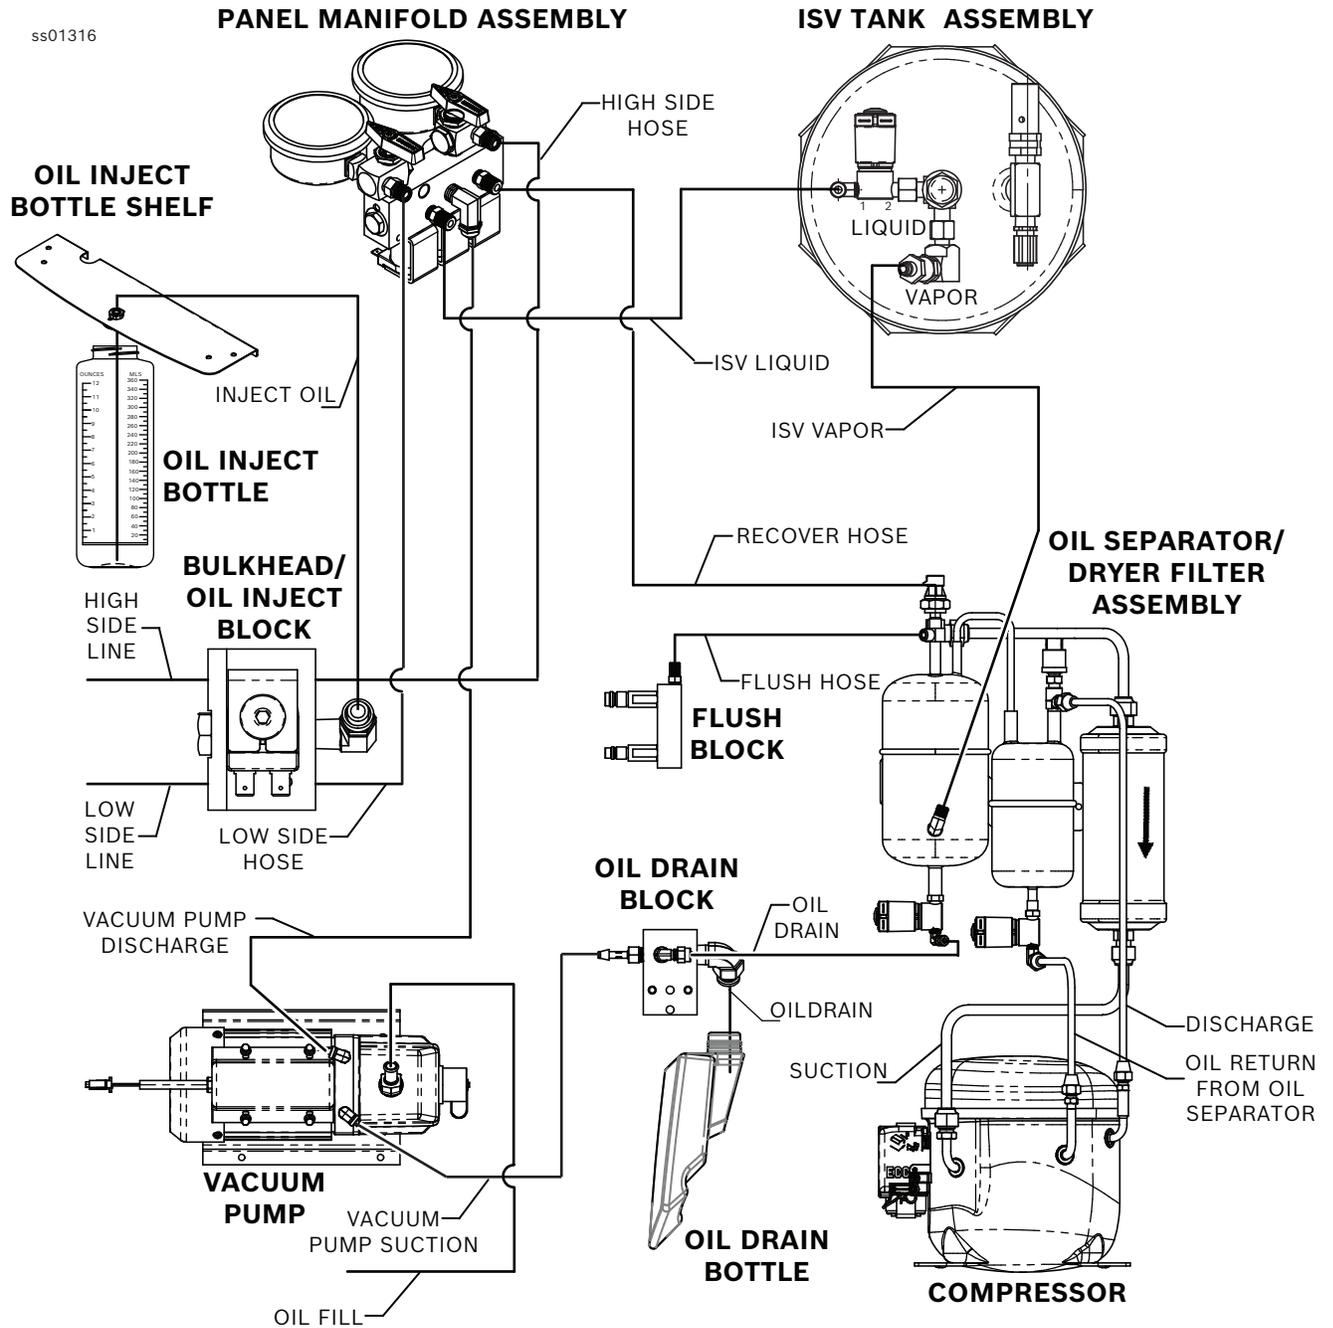

Figure 4-2. Plumbing Interconnection Diagram
These instructions outline the steps to replace the existing vacuum pump. See Figure 4-2 and 4-3.
2. Connect the high and low side hoses, vacuum pump hose, tank fill/liquid hose and recover hose. Refer to Figure 4-2 for the proper location of the hoses.